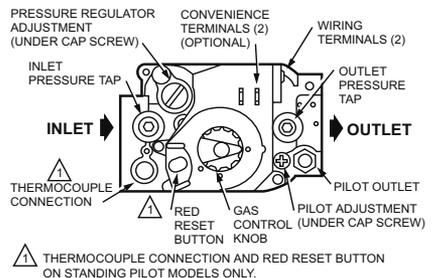

Fig. 1. Top view of VR8200 combination gas control.
2. Remove regulator cap screw and pressure regulator adjusting screw. Refer to Fig. 1.
- Remove pilot adjustment cap screw. Refer to Fig. 1.